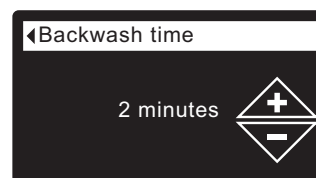

FIG. 68
7. Press the SELECT (O) button to display the desired cycle time screen (See Figures 68 & 69).
- 8a. **Backwash time:** Press the UP (▲) or DOWN (▼) buttons to change the backwash time. Hold the button down to rapidly advance. The backwash time can be set from 1 to 99 minutes* (See Figure 68).